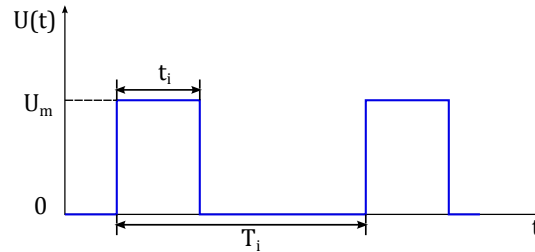

Figure 3: Square wave output
- ✓ Measure output signal period of oscillation  $T_i$  and input signal pulse width  $t_i$ , see Appendix Subsection 6.1, Fig. 3.